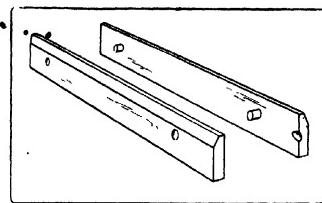
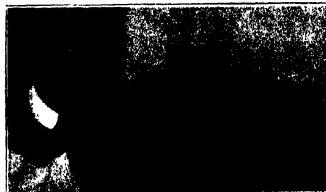

Fig. 205. Winding-Sticks, 12 inches Long.
Fig. 206. Method of Using the Winding-Sticks.
*Winding-sticks*, Fig. 205, consist of a pair of straight strips of exactly the same width thruout. They are used to find out whether there is any twist or "wind" in a board. This is done by placing them parallel to each other, one at one end of the board, and the other at the other end. By sighting across them, one can readily see whether the board be twisted or not, Fig. 206. The blades of two framing-squares may be used in the same manner.